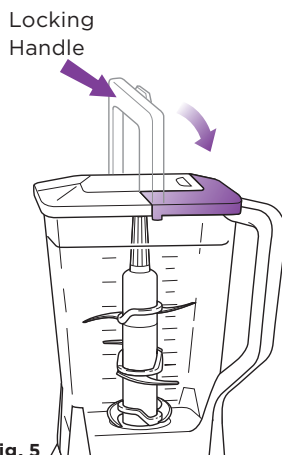

Fig. 5
- 3 Place the lid onto the pitcher with the locking handle in the upright position and the pouring spout on the corner opposite the pitcher handle. Align the arrows (▼) located on the lid and pitcher handle. Ensure that the lid is completely seated and press the lid down into the pitcher. Press the locking handle down so that the latches on the lid fit under the tabs on the pitcher. (Fig. 5)